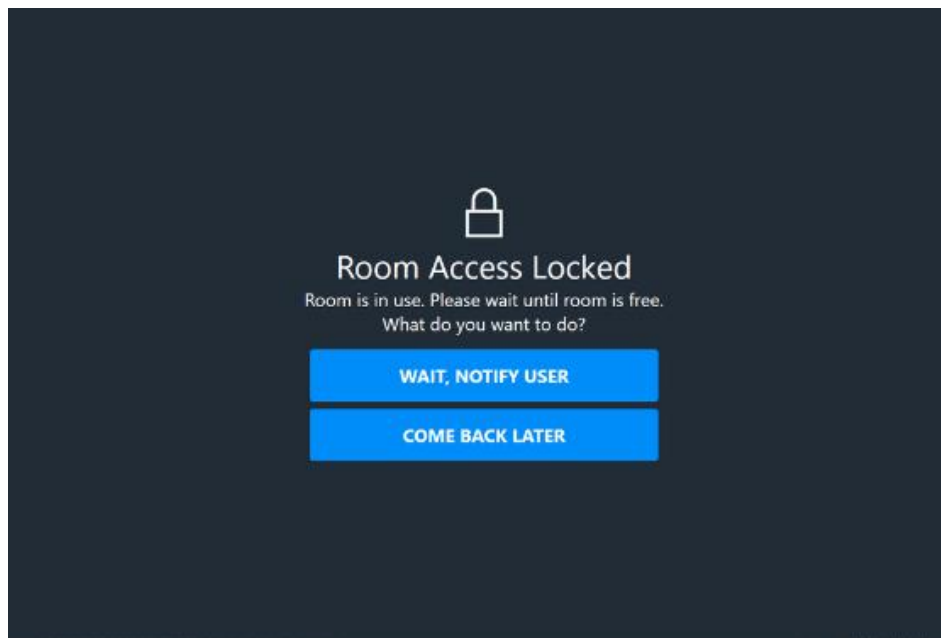

Figure 83: Interrupt or Wait button
If the room is being used, a message appears informing you that the room is in use. See Figure 83.
2. You can wait and inform the person in the room that you are waiting by tapping the **Wait, Notify User** button. See Figure 83. Or, come back later.